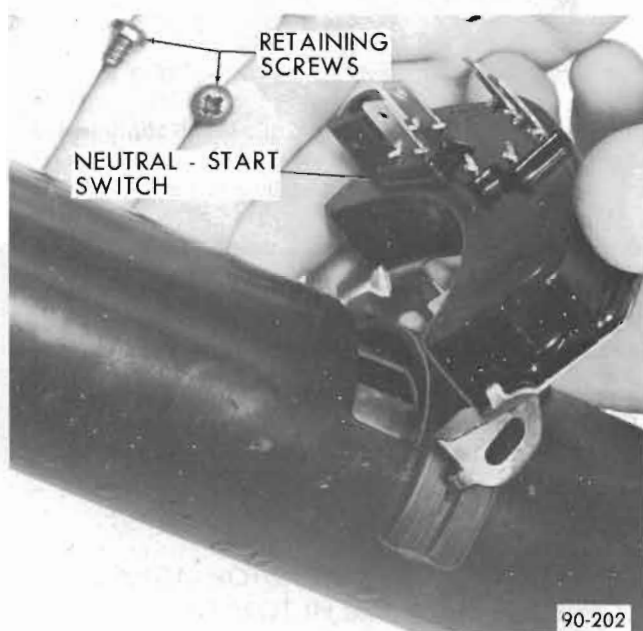

Figure 90-94 Removing or Installing Switch
2. (Automatic Transmission) Remove the two screws holding the neutral-start switch and remove switch. See Figure 90-94.
(Manual Transmission) Remove the two screws holding the back-up switch and remove switch. See Figure 90-94.
6. (Automatic Transmission) Install the neutral-start switch, making certain the proper screws are used. See Figure 90-94.
(Manual Transmission) Install back-up switch, make certain only the proper screws are used. See Figure 90-94.